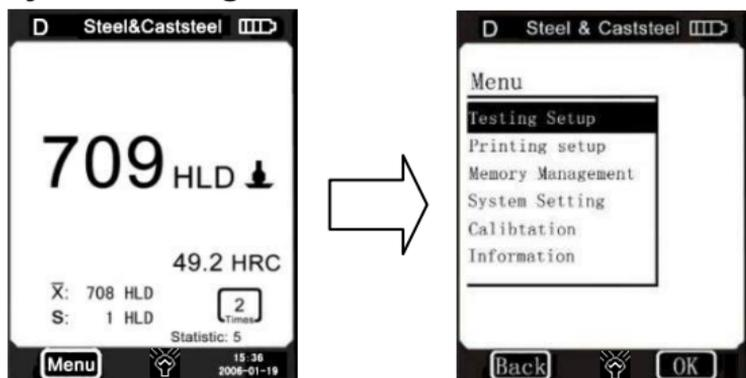

Fig 4.3
**LHT-200** selects the multistage menu mode. (Fig 4.2) In measure mode, click **Menu** on the screen to display the menu. (Fig 4.3) It contains six options: **Testing Setup; Printing Setup; Memory Management; System Setting; Calibration; Information;**